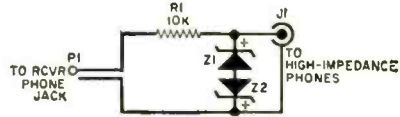

Fig. 1. Simple "ear saver" noise limiter should be inserted between the receiver phone jack and a pair of headphones.
**Simple Limiter.** Figure 1 is a simplified and modernized version of the "Headphone 'Ear Saver'" originally described in POPULAR ELECTRONICS in July, 1961. At low signal levels, the two zener diodes (Z1 and Z2) act like a very high resistance, and the circuit performs normally. But when a signal voltage exceeds the zener breakdown voltage rating of the diodes, they act like a virtual short circuit. As a result, strong noise and signal peaks are effectively clipped down to size.